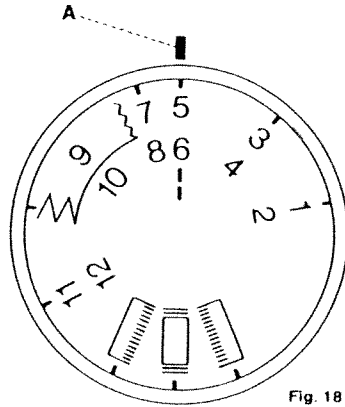

Fig. 18
2. Turn the utility stitch selector until the number designating the stitch chosen is positioned below mark **A** (Fig. 18).